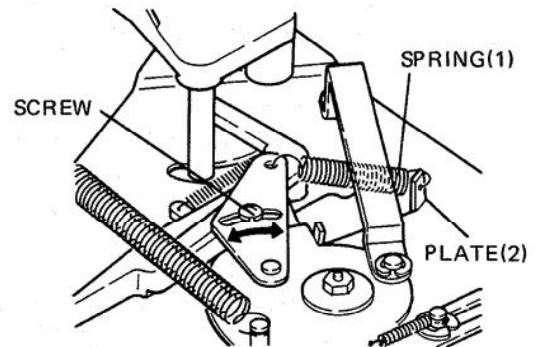

Fig. 12
Adjust the tension of the spring (1) attached to the plate (2). Turning the screw clockwise will make the plate (2) move slowly; turning it counterclockwise will make the plate (2) move fast (Fig. 12).